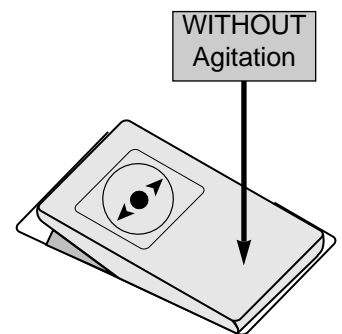

Fig 5-3
- Position the valves as above. (fig 5-2) or position the switch (fig 5-3) (electric valve as option)